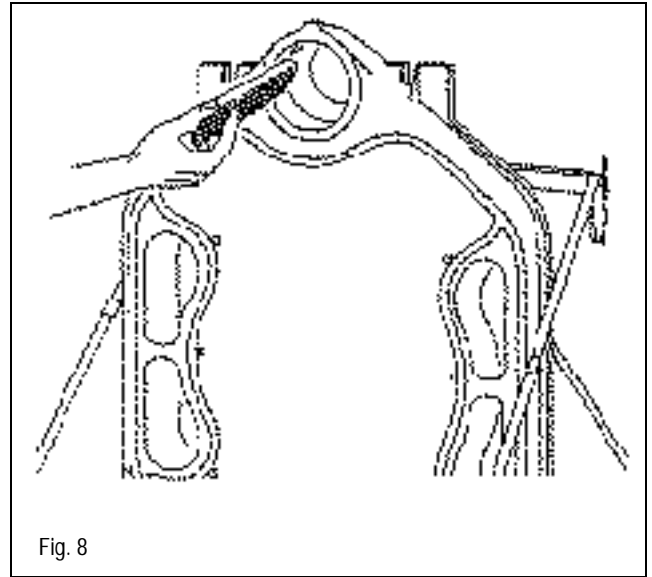

Fig. 8
- File off any burrs from the nipple ports (Fig. 8).